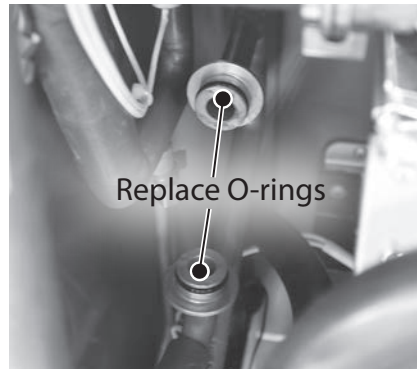

Figure 186 - Replace exposed O-rings
- 17** Locate the two O-rings on the exposed water pipe connections as shown in Figure 186 and remove them. Dispose of O-rings properly.